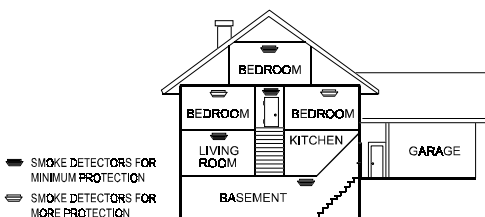

Figure 12. Placing Smoke Detectors in a Multi-Floor Residence
- Install a smoke detector on every floor of a multi-floor home or apartment, as shown in Figure 12.